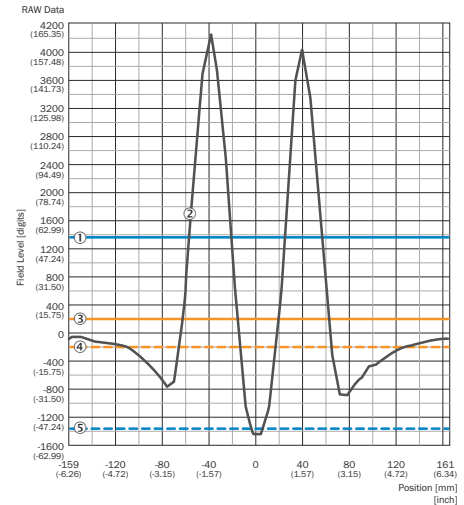
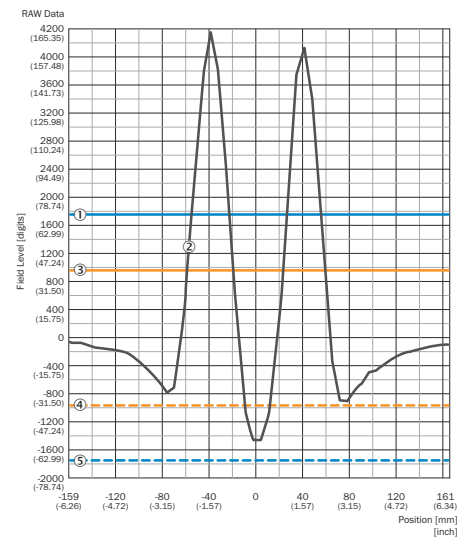

Figure 24: Min Level
Figure 25: Moved Min Level
In addition, the **Min Level** (3)/(4), which defines the threshold for detection of a track, can be moved (index 0x2025). The parameters can be best optimized when two tracks are very close to one another (e.g. with a diverter). The negative overshoots can lead to problems (figure 24) which can be prevented by a higher (absolute) **MinLevel** (figure 25).